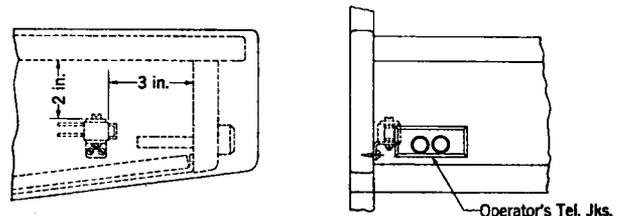

Fig. 1—Varistor Mounted on the End Panel at the Left-Hand Side of Keyshelf.
3.02 Where the wiring to the telephone jacks enters along the left-hand side of the keyshelf, mount the varistor on the end panel of the keyshelf on the left-hand side as indicated by Fig. 1.